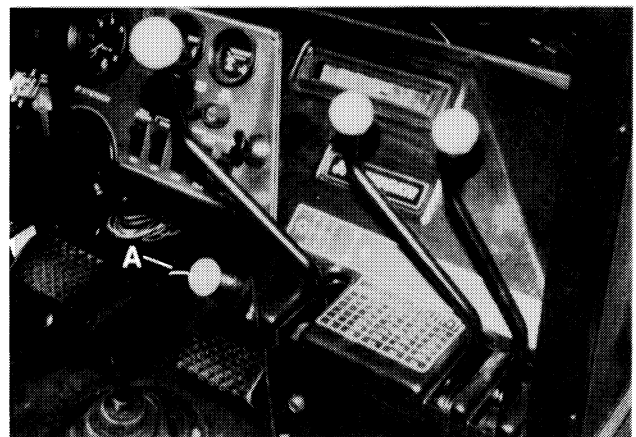

Figure 1:
3. Push the engine stop knob (A) all the way "in" (Fig. 1).